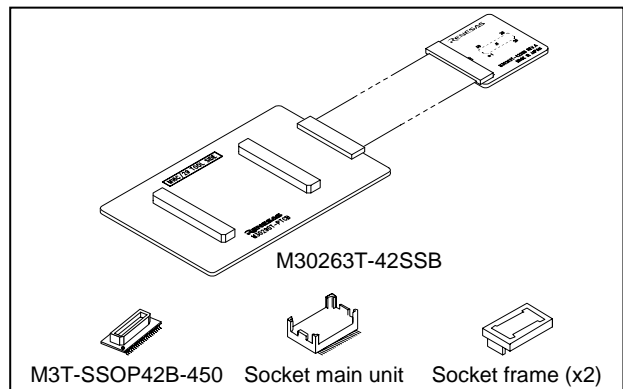

Figure 1 Package components of the M30263T-42SSB
2. Package Components (See Figure 1)